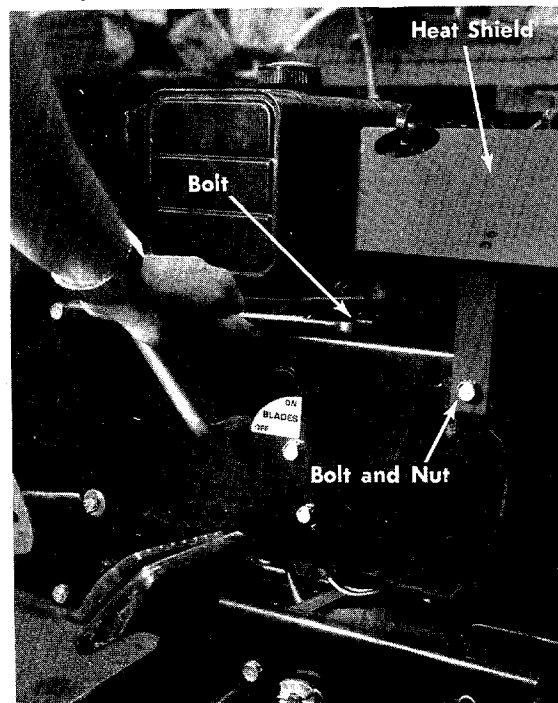

FIGURE 8 BELT GUARD
- g. Remove the top bolt on the belt guard. See figure 8.